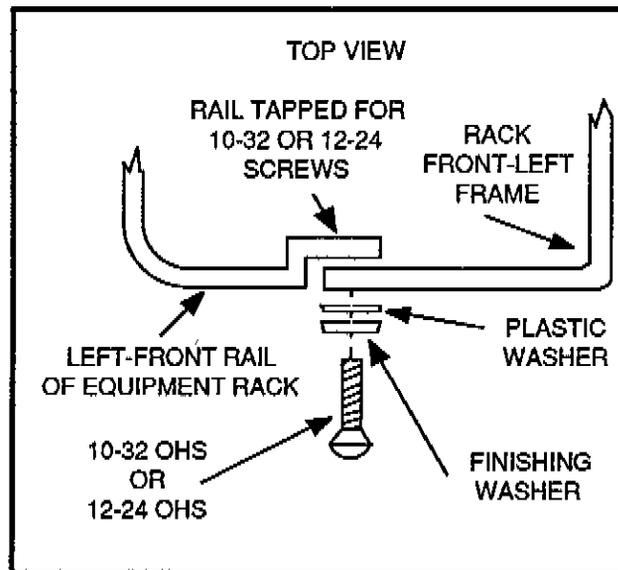

Figure 6-7. Securing rack-adapted Spectrum Analyzer to front rails of equipment rack.
4. Secure the front frames of the rack adapter to the front rails of the equipment rack using four oval-head screws, four finishing washers, and four plastic washers, as shown in Figure 6-7.